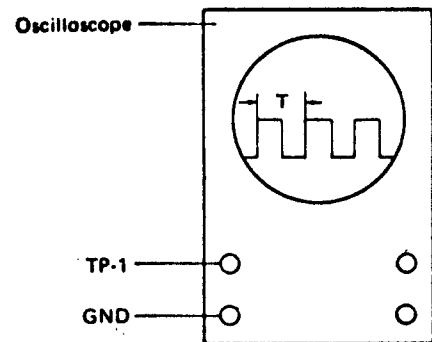

Fig. 14
2. Connector an oscilloscope between TP-1 and GND on the motor board as shown at right (Fig. 14)